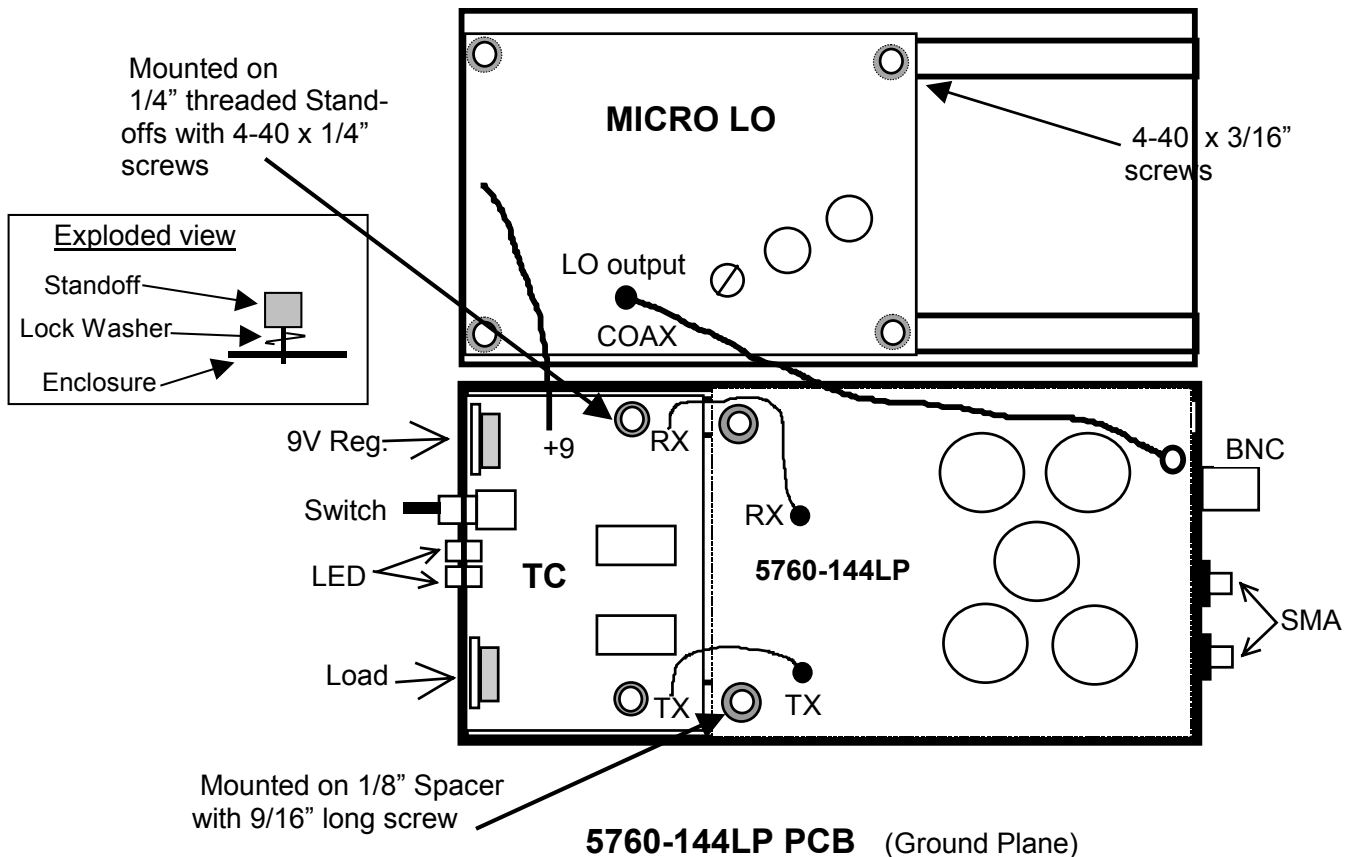

Figure 10.
6. Now that the local oscillator is complete, you should begin to assemble the TC in the enclosure Using the TC installation instructions and Figure 10 as a location guide. Install all connections except the 3 Feed through connectors to the PTT, +13.8, and AUX. Be sure to make all wire and coax connections to the TC on the topside. If you have the 2 watt version, make all connections from PA and LNA section in the transverter to their matching connections on the TC. Do not shorten any of the wires or coax for now. Connect the DC input of the MICRO LO to the +9 connection by the regulator on the TC board. Install one or both BNC connectors in the connector panel and connect them to the TC with 12" coax as you wish the transverter to be configured. Connect a 9" #24 wire to the +13.8 on the TC. This is the DC input for the transverter. Be sure of the drive level that the TC is configured for and review the Operation instructions of the TC before going on to Step #7.
If you have the complete kit, assemble the transverter using the supplied hardware per Figure 10. The MICRO LO is mounted to the opposite half of the enclosure as the transverter. Please verify the orientation of the MICRO LO before attaching it to enclosure. Remove the 4-40 nuts from the 9/16" screws and with the 1/8 " spacer and install the transverter in the enclosure. Only start the 4-40 screws. Then start the two panel screws and when the alignment is correct, tighten all four. You may now shorten all wires and coax to clean up the "Rats Nest". When you become satisfied with the length of the wires, you may want to bundle all of the control wires and coaxes together to make a neat appearance. It is not necessary, but it will contain the wires to make closing the enclosure easier. Keep the MICRO LO wires and coax separate from the rest of the transverter wires.